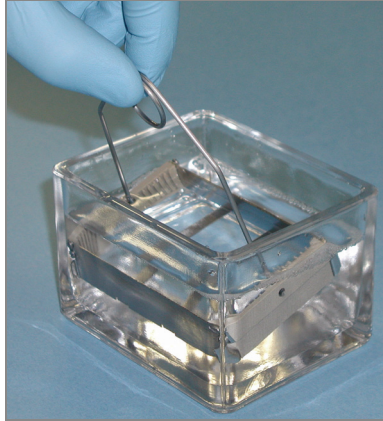

Figure 160 Wash Rack in Wash Dish Containing PB1
1. Attach the wire handle to the rack and submerge the wash rack in the first wash dish containing 200 ml PB1 (Figure 160).